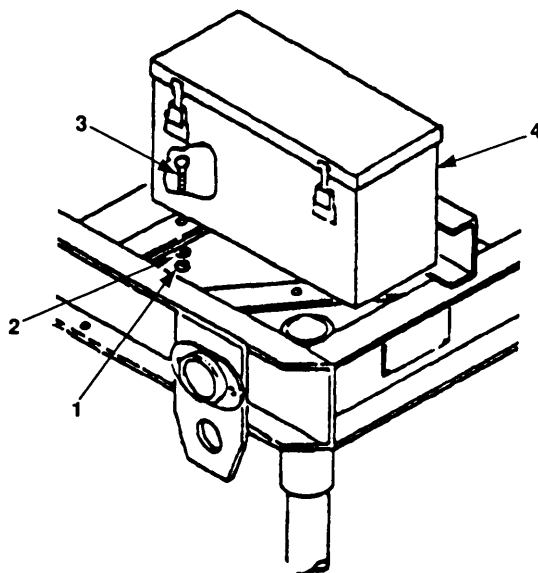

Figure 4-62. Tool Box Maintenance.
- a. Open lid of tool box (4).
- b. Remove three nuts (figure 4-62, 1), lockwashers (2), and bolts (3) that secure tool box (4).
- c. Remove tool box (4).